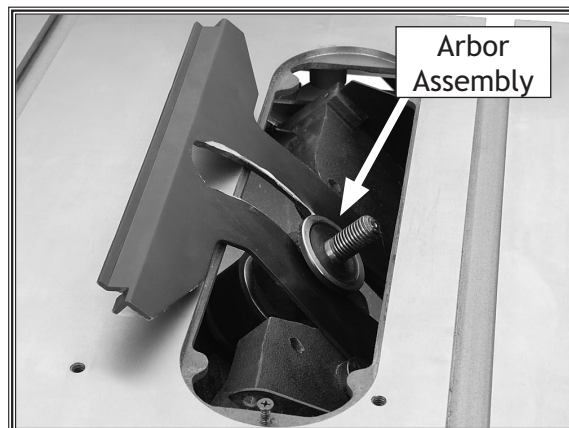

Figure 37. Removing the belt cover plate.
4. Remove the belt cover plate shown in **Figure 37**. The cover plate is held in place by two tabs that fit into holes in the trunnion. Pull the ends of the cover plate out to release the tabs from the trunnion.